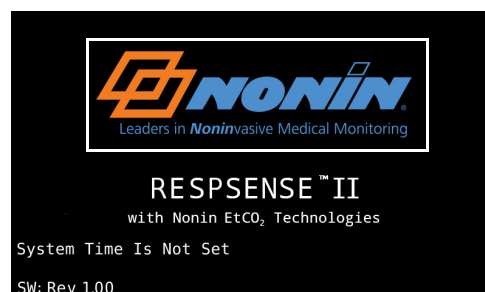

Figure 6. Access Configuration Menu (Nonin Logo)
3. When the Nonin logo start-up screen displays, press the Nonin logo twice (double-tap). In figure 6, the Nonin logo is highlighted with a white box.